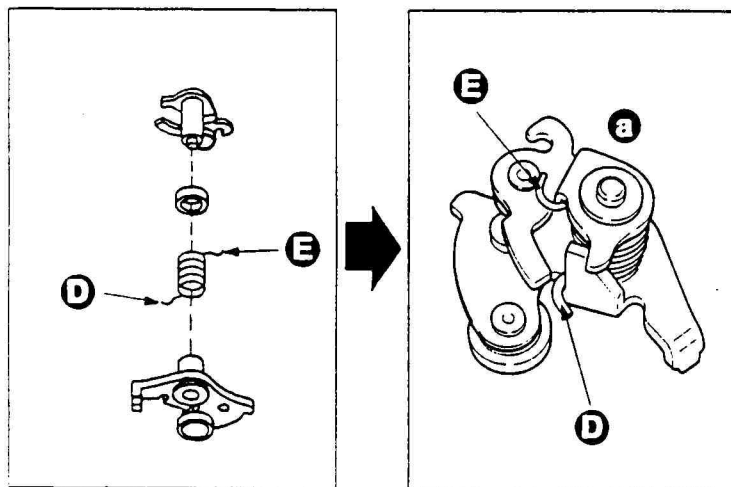

Fig.3
3. Subassemble the S. lever ass'y ③ by hitching the hooks ④ and ⑤ of the spring as shown in Fig. 3, and then install to the substrate M.